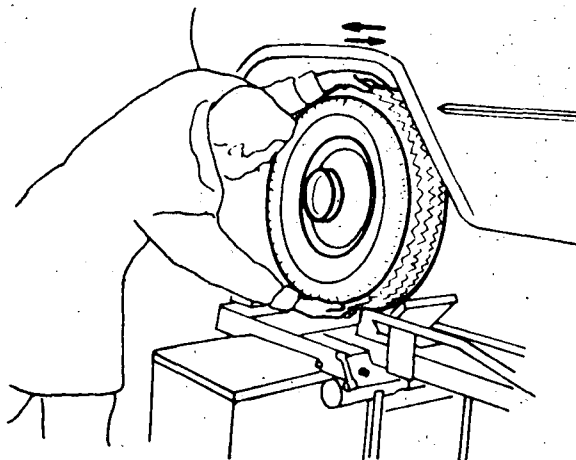

Fig. 2
- b) Check the play in the bearings of the hubs of the front wheels, by moving the wheel inwards and outwards alternately, holding it on top and bottom (fig. 2).